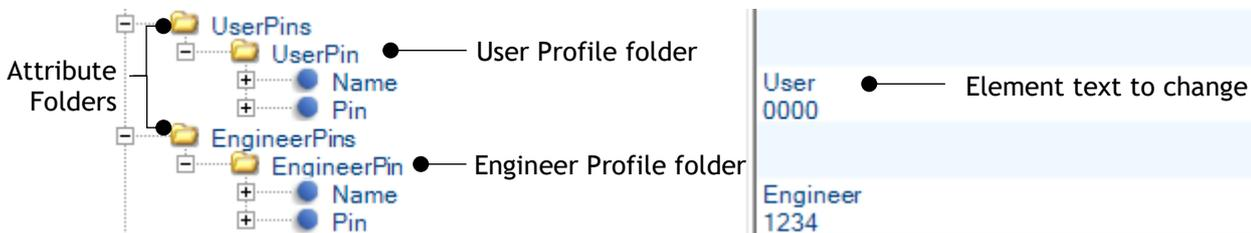

Figure 19: Expanded UserPins and EngineerPins Folders
1. Click the  icon next to the **UserPins** or **EngineerPins** attribute folder to expand them. At least one existing **profile folder** will appear below (**Figure 19**).